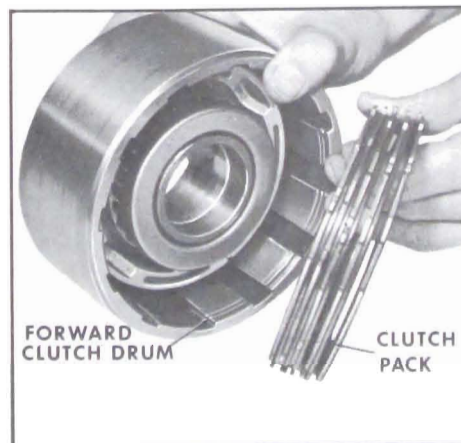

Figure 5-214
6. Remove clutch pack from forward clutch drum. See Figure 5-214.